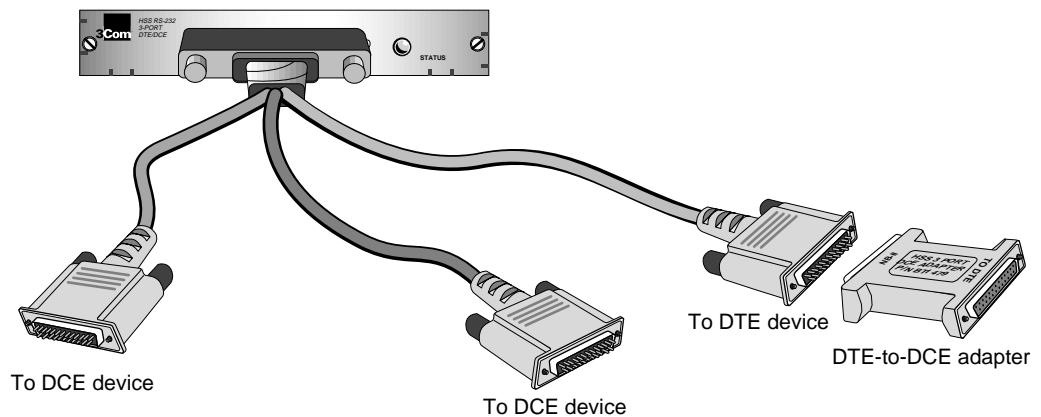

Figure 1-4 Attaching the DTE-to-DCE Adapter
- Attach the end of the DTE-to-DCE adapter labeled “NB II” to the end of the 25-pin connector on the cable. Connect the end of the adapter labeled “To DTE” to the DTE device as shown in Figure 1-4. You can connect the adapter end directly to a DB-25 male connector on the DTE device or to a DB-25 male connector on a cable coming from the DTE device.